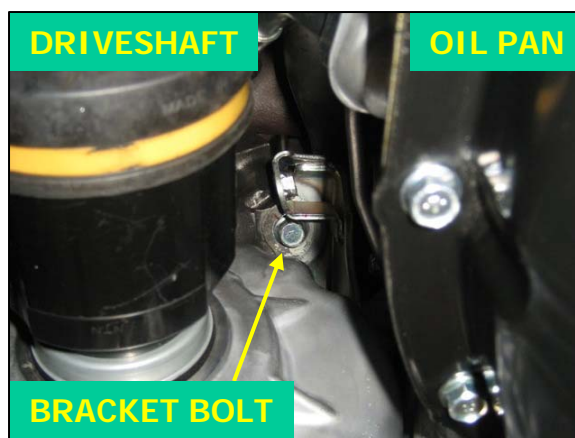

Fig. 20
23. Find the small steel bracket that connects the turbine housing to the engine block. Remove the bolt into the turbine housing. This bolt is accessible from underneath the vehicle, and is visible between the passenger-side driveshaft and the oil pan. Leave the bracket attached to the engine block. This part will be reused (1 bolt, 14mm socket, extension, u-joint). See figure 20.
44. Install the single bolt into the turbine housing support bracket. Apply anti-seize compound to bolt threads to protect against corrosion. See figure 42. The bracket may need to be loosened from the engine block in order to align it with the turbine housing. Ensure both bolt holes are aligned and that the bracket is in close contact with engine block and turbine housing before tightening. Torque the bolt to engine block (if necessary) to 33-34 lb-ft (44-58 N-m). Torque the bolt to turbine housing to 45-51 lb-ft (59-69 N-m). Also refer to figure 20 (1 or 2 bolts, 14mm socket, extension, u-joint).